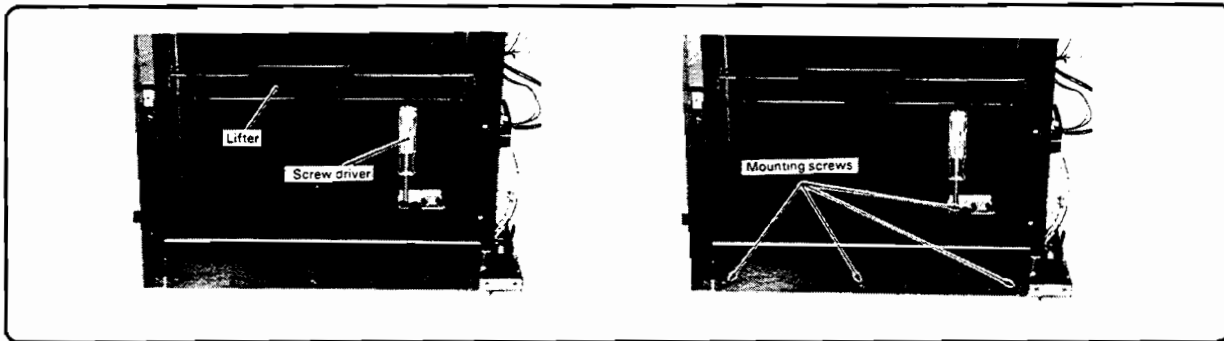

Figure 6-140. Lifter Motor Removal
5. Lift the lifter tray and support it with a screwdriver, as shown in Figure 6-140.
6. Remove the four screws and electrical unit cover Figure 6-140.
5. Remove the four screws and electrical unit cover (Figure 6-140).